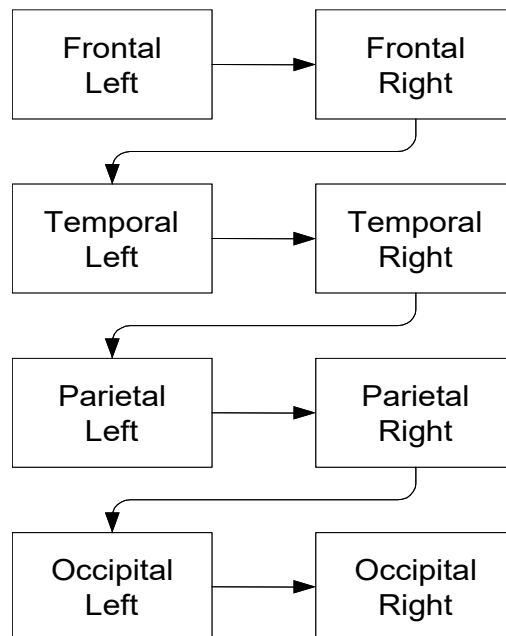
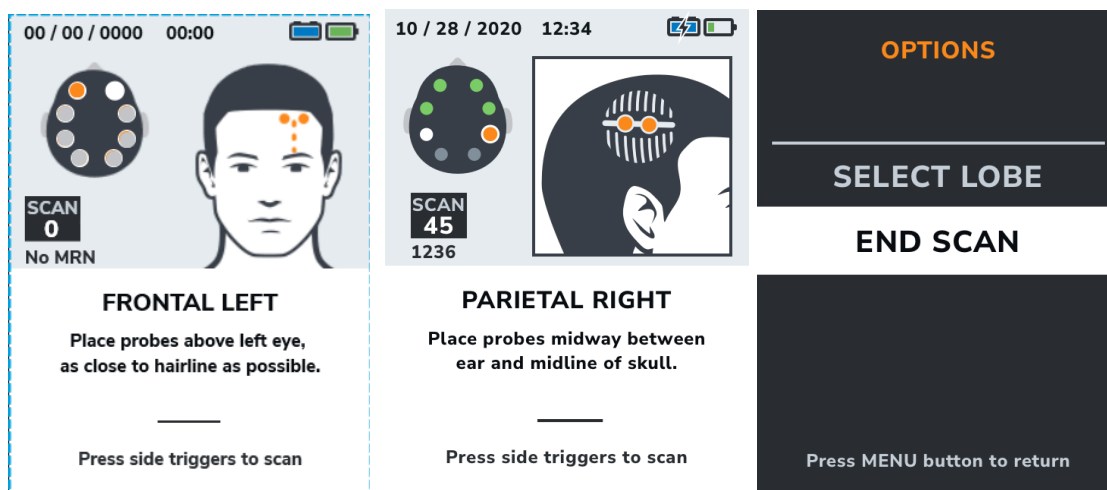

Figure 2-4: Infrascanner head scanning sequence
Figure 3-6: Scanning screens
3.2.4 The Infrascanner is ready to begin measuring. Take the Infrascanner, and start the head scan, alternating between left and right positions according to the head scanning sequence in Figure 2-4. The system helps the user through the measurement process by displaying tutorial screens (Figure 3-6) and guiding the user to repeat measurements when a potential hematoma is detected. If the operator wishes to skip head lobe, Menu button is pressed to bring a menu for skipping a lobe.